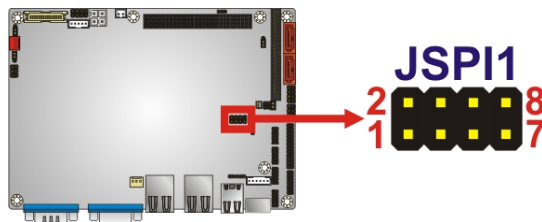

Figure 4-22: SPI Flash Jumper Pinout Locations
- Jumper Location:** See **Figure 4-22**